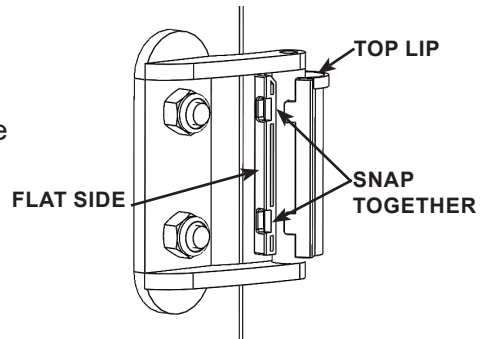

FIGURE 3.19 - Hinge Bushing Installation
**STEP 2:** Reinstall the hinge bushings with the larger end at the top. The top lip prevents the hinge bushing from sliding through the hinge assembly. Snap the two pieces together with the flat side of the bushings facing the cage door. See FIGURE 3.19